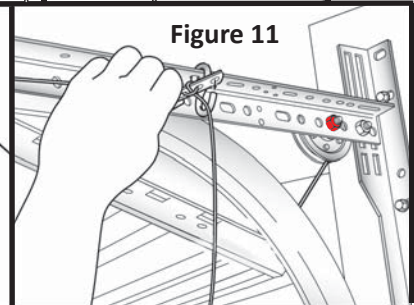
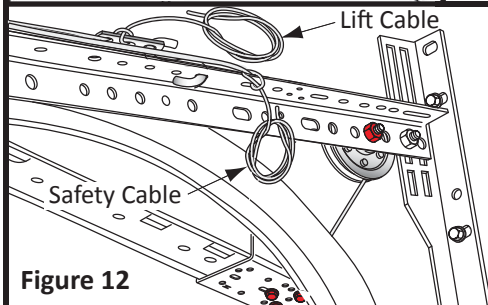
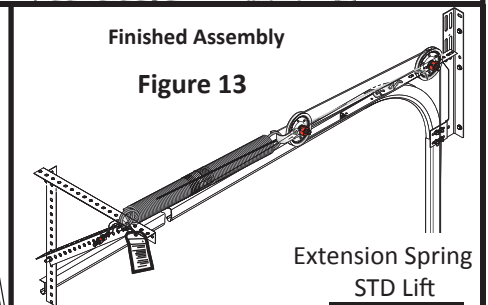

Figure 11
Figure 12
Figure 13
Step 11: Attach the Cable Adjustment Clip to the "S" Hook (Figure 11). Be sure to pull out all of the slack in the cable at the Cable Adjustment Clip so the Extension Spring hangs near horizontally (Figure 13). Loop any additional cable to keep it out of the way (Figure 12)
Step 12: Tie the remaining Safety Retention Cable(s) through a hole in the Horizontal Angle between the "S" hook and the jamb (Figure 12). Loop any additional cable to keep it out of the way (Figure 12).
Step 11: Attach the Cable Adjustment Clip to the loose end of the Lifting Cable (Figure 11).
Step 12: Attach the Cable Adjustment Clip to the "S" Hook (Figure 11 & 14). Be sure to pull out all of the slack in the cable at the Cable Adjustment Clip so the Extension Spring hangs near horizontally (Figure 14 & 15). Loop any additional cable to keep it out of the way (Figure 13)
Step 13: Attach the Cable Adjustment Clip(s) to the Safety Retention Cable(s) (Figure 12). Fasten the clip(s) to the jamb using (1) 5/16"x1-5/8" Lag Bolt (Figure 12 & 13).